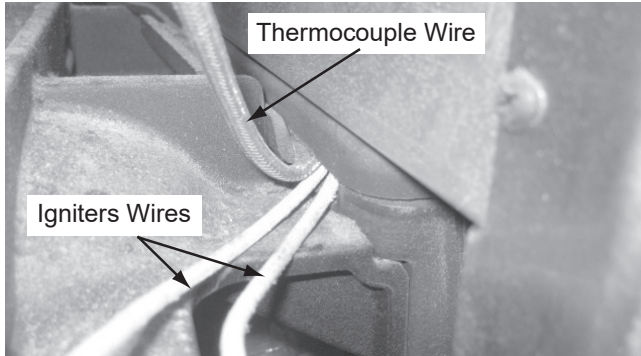

Figure 9
- Remove the thermocouple and wires through the ash pan opening in the front of the appliance (**Figure 9**).